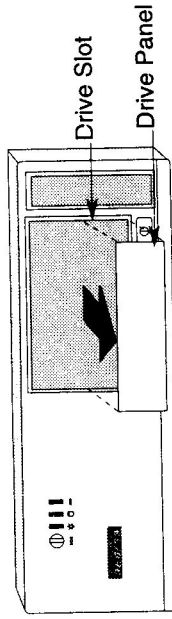

Figure 9. Removing the Drive Panel
10. If a drive panel previously covered the drive slot, remove the drive panel from the computer's front panel, as shown in Figure 9.